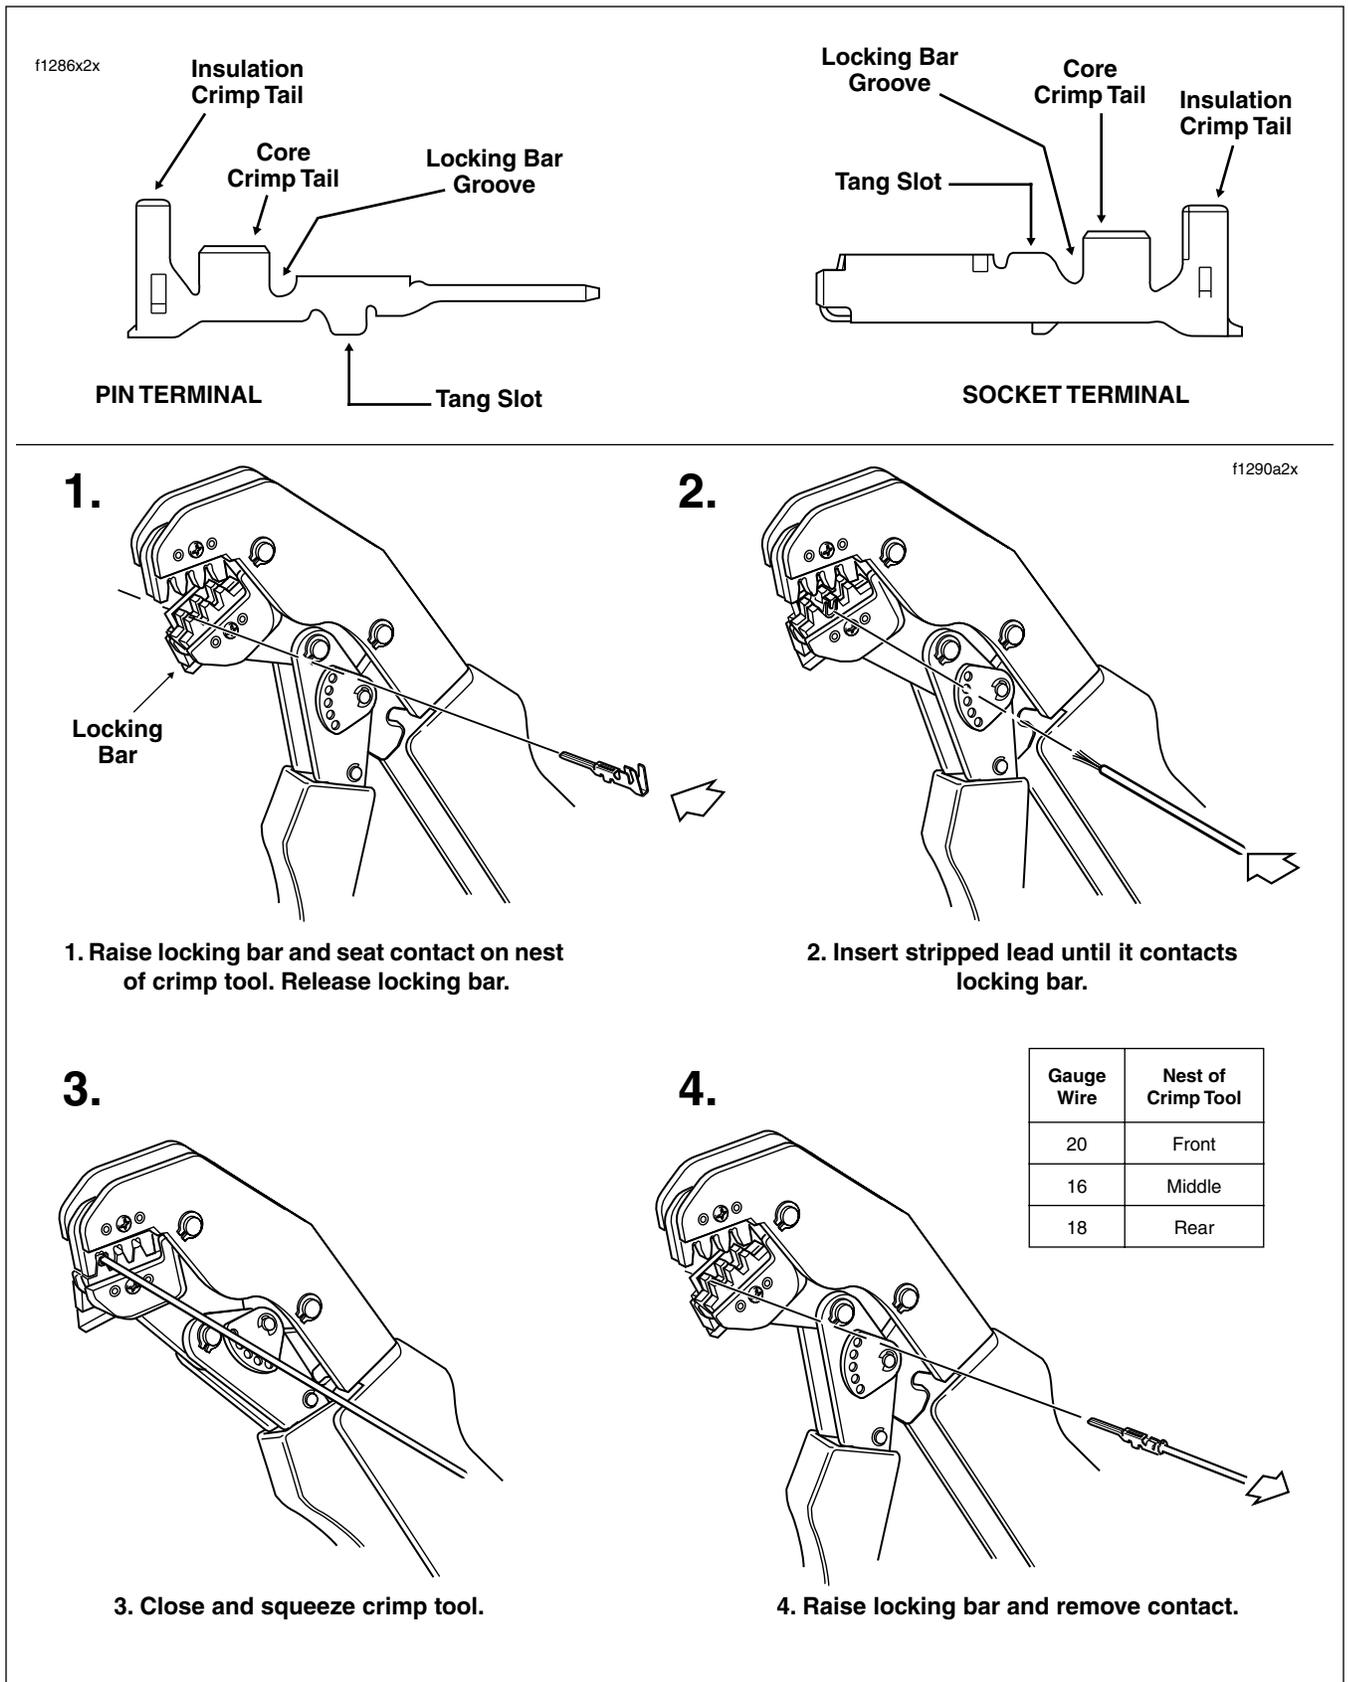

Figure 8-15. Multilock Crimping Procedure
2. Raise locking bar by pushing up on bottom flange. With the crimp tails facing upward, insert contact (socket/pin) through locking bar, so that the closed side of the contact rests on the nest (concave split level area) of the crimp tool). Use the front nest for 20 gauge wire, the middle for 16 gauge and the rear for 18 gauge. See Figure 8-15.